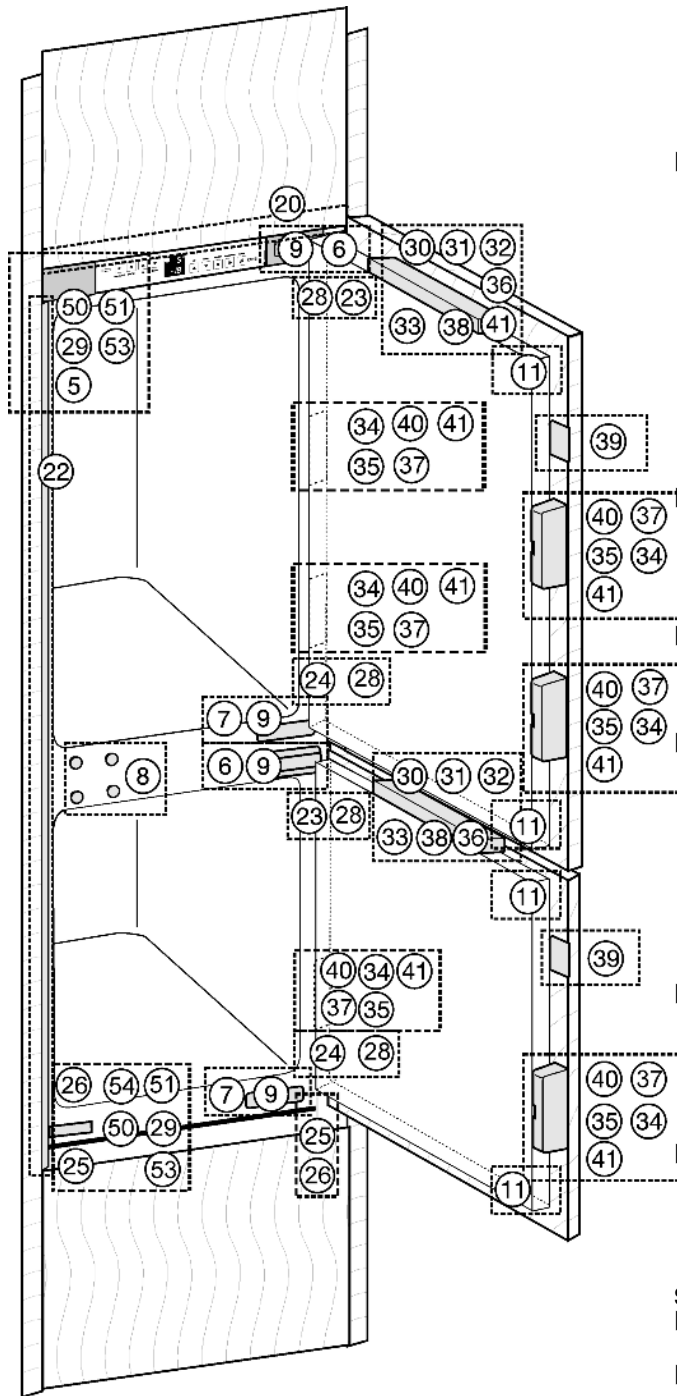
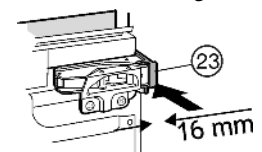
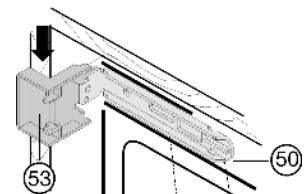
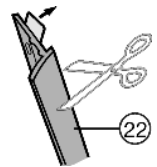

Fig. 8
Fig. 12
Fig. 13
Fig. 14
- ▶ Remove the covers Fig. 8 (5,6,7).
- ▶ For 16 mm-thick unit walls = 568 mm-wide recess: Clip spacer Fig. 12 (23) onto the upper hinge and spacer Fig. 8 (24) onto the lower hinge.
- ▶ Attach the top cover Fig. 13 (53) and bottom cover Fig. 13 (50) to the mounting brackets.
- ▶ Fasten the mounting brackets Fig. 13 (50) at the top and bottom with screws Fig. 13 (51) so that the brackets can still be moved a little to the left and right.
- ▶ Strip the protective film off the cover trim Fig. 14 (22). Apply the cover trim Fig. 13 (53) on the handle side, flush with the front, and adhesively affix it to the side wall of the appliance.
- ▶ If necessary, shorten the cover strip Fig. 14 (22) at the bottom: The cover strip Fig. 14 (22) has to end 3 mm above the upper edge of the lower mounting bracket Fig. 8 (50).
- ▶ Slide in the appliance until the covers Fig. 13 (53) abut Fig. 13 against the side wall of the kitchen unit.
- ▶ Allow for the extra distance (depth of the door stop components): Allow hinges and covers Fig. 13 (53) to protrude by the extra distance.
- ▶ Vertically align the appliance by means of the adjustable-height feet *Fig. 8 (25)*, using the accompanying open-ended spanner *Fig. 8 (26)*.